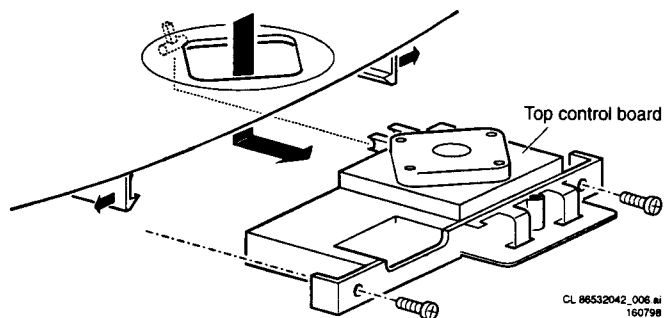

Figure 4-6
1. See figure 4.6. Pull 2 clamps to the outer side